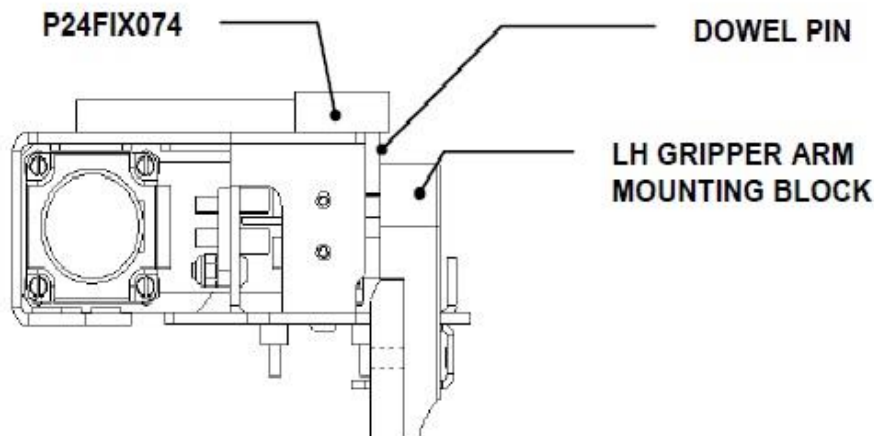

Figure H-12: The Gripper Arm Spacing Fixture
3. With the arms secured to the fixture, insert the Gripper Arm Spacing Fixture (Figure H-12). The dowel pins should be between the Leadscrew Bearing Housings and the Gripper Arm Mounting Blocks.